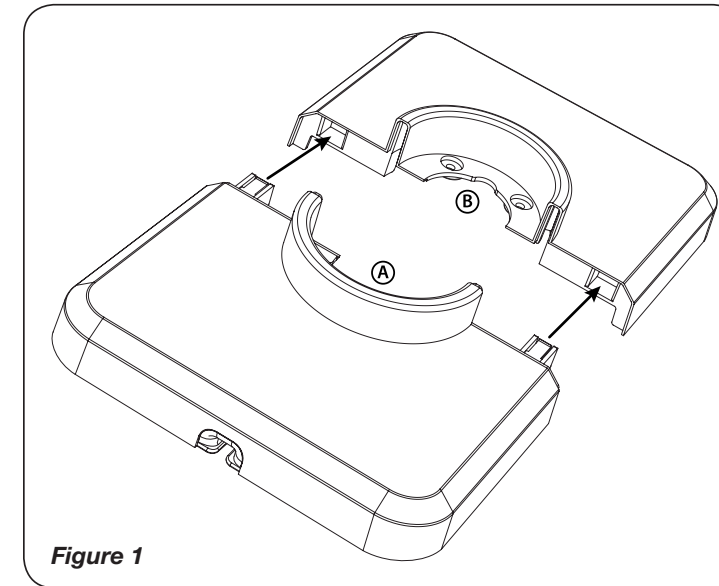

Figure 1
ASSEMBLY (Figures 1 & 2)
- Assemble the base by snapping sides A and B together as shown in Figure 1.